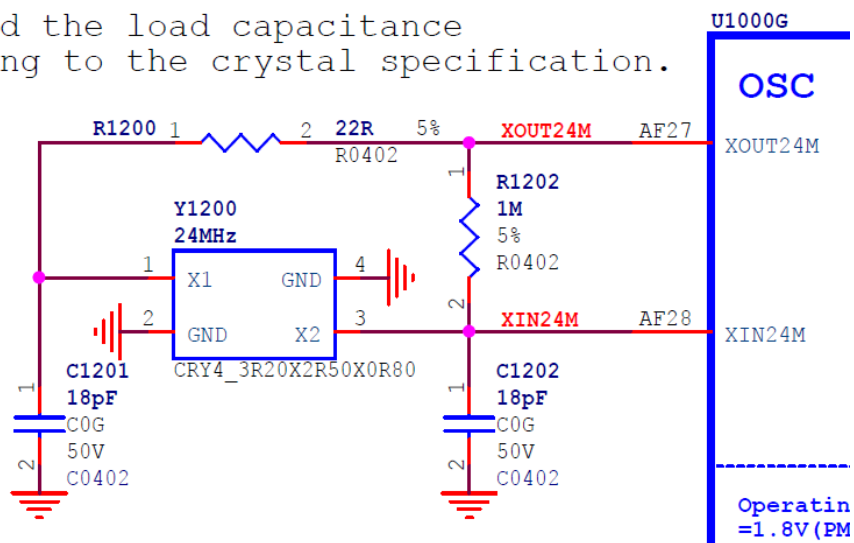

Figure 2-1 RK3568 Crystal circuit and components parameters
- The oscillator circuit inside RK3568 and the external 24MHz crystal form the system clock, as shown in Figure 2-1.